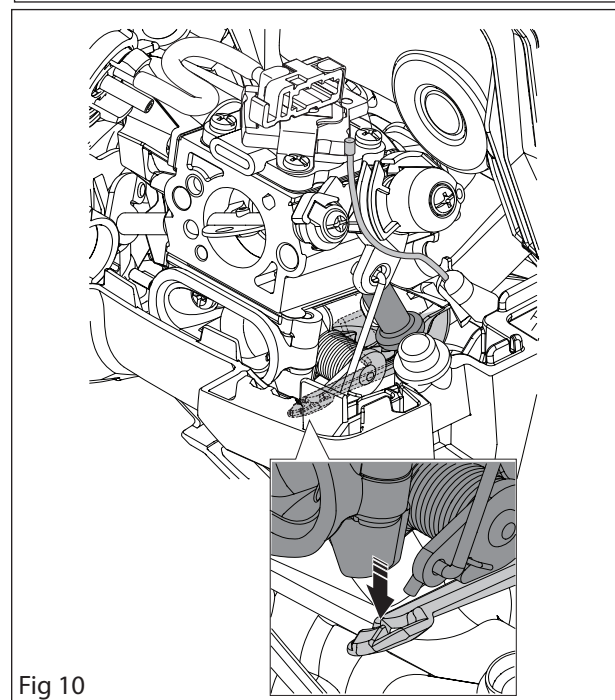

Fig 10
9. Press down the lug to release the carburettor. Lift out the carburettor. See figure 10.